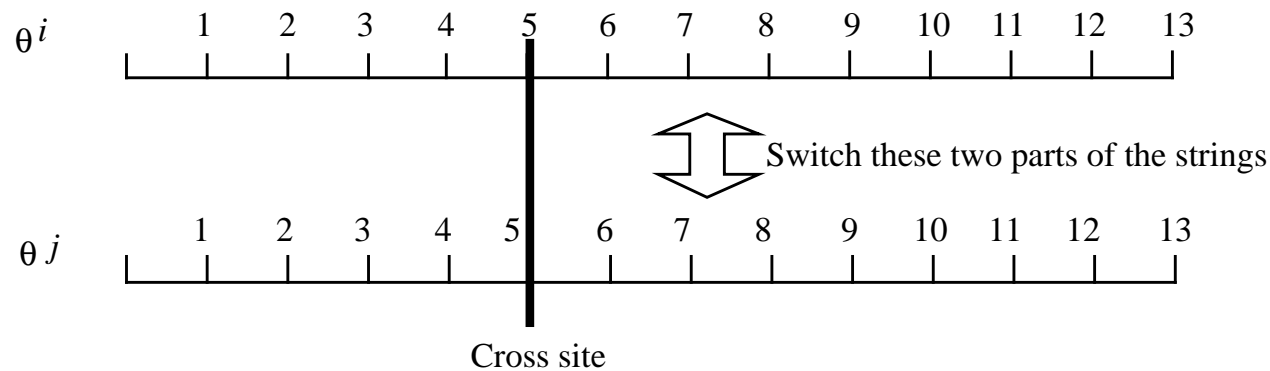

Figure 19: Crossover operation example.
- Procedure (use “crossover probability” p_c): Randomly pair off the individuals in the mating pool $M(k)$, then see Figure 19